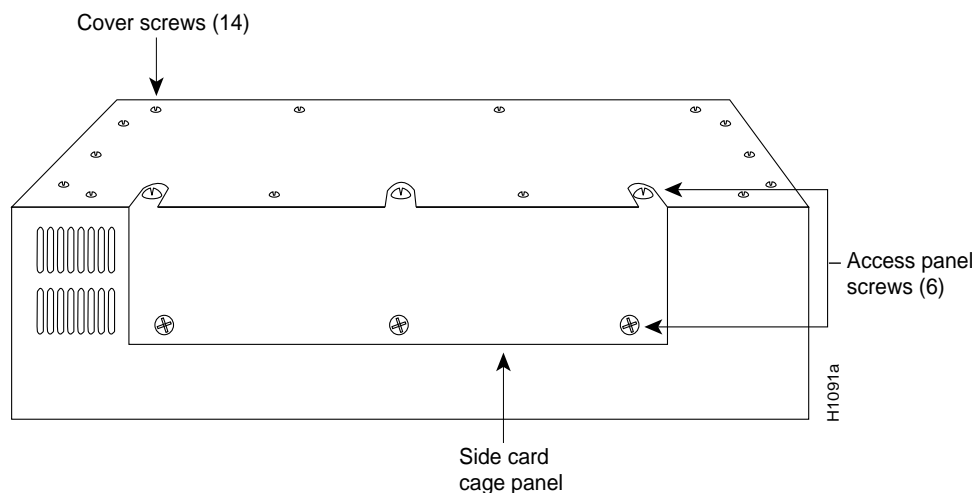

Figure 3 Screw Locations on the MGS Chassis Exterior—Side View
- Step 5** To access the cards in the card cage, locate the three flat-blade screws that secure the card cage access panel. (See Figure 3.) These screws are located on the top of the MGS chassis access panel.
- Step 8** To access the other chassis components, use the No. 1 Phillips screwdriver to remove the 14 screws that secure the top cover of the MGS chassis. (See Figure 3.) Set the top cover aside.